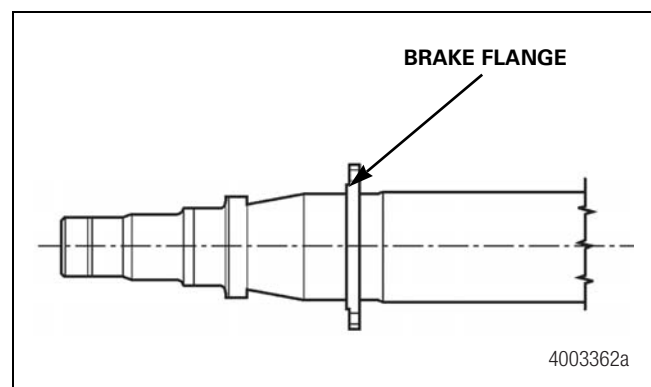

Figure 13.17
7. On some axle models, unit-mounted brakes, standard on drive axles, are fastened to the trailer axle by bolting the spider to a brake flange. Figure 13.17.